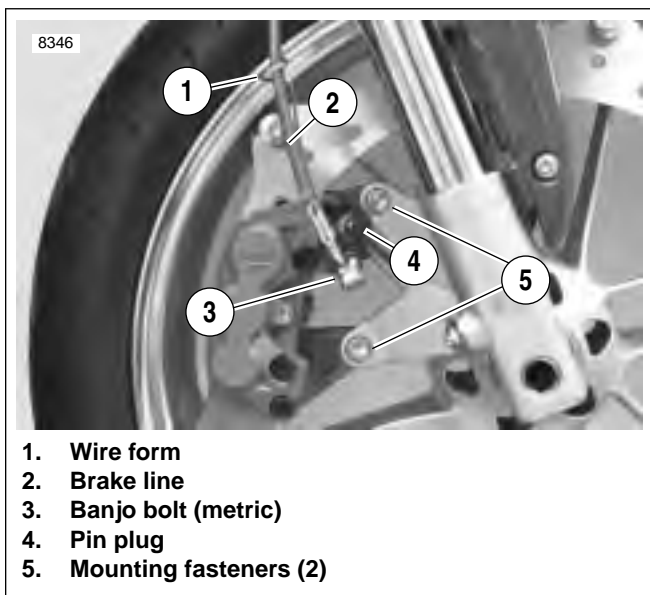

Figure 2-45. Front Brake Caliper Mounts
2. See Figure 2-45. Disconnect brake line at caliper. See 2.11 FRONT BRAKE LINE.
3. Remove caliper mounting fasteners (5).